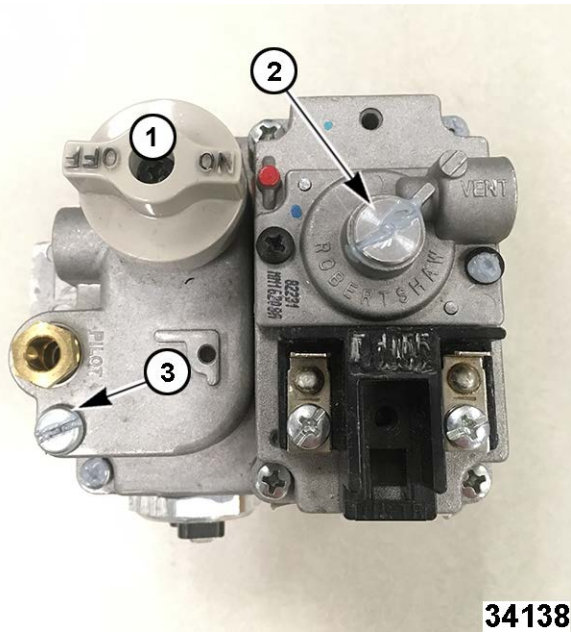

Fig. 63
1. Open the door(s) and turn the gas combination valve off (1, Fig. 63).
5. Remove adjustment screw cover (2, Fig. 63) to access pressure adjustment screw.
- A. Remove gas valve pilot adjustment cover (3, Fig. 63) to expose adjustment screw.